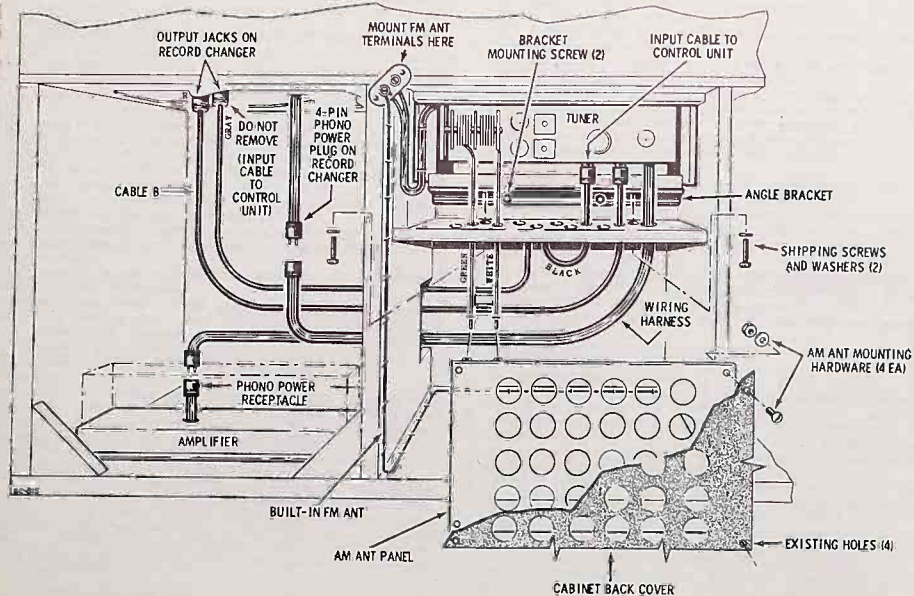

FIGURE 4. SK22, SK24 INSTALLATION
6. On Models SK22 or 24, mount angle bracket inside tuner compartment using #8-32 x 3/4" machine screws and washers. Locate holes in front panel of compartment; line up holes on bracket with holes in compartment (see Figure 4).